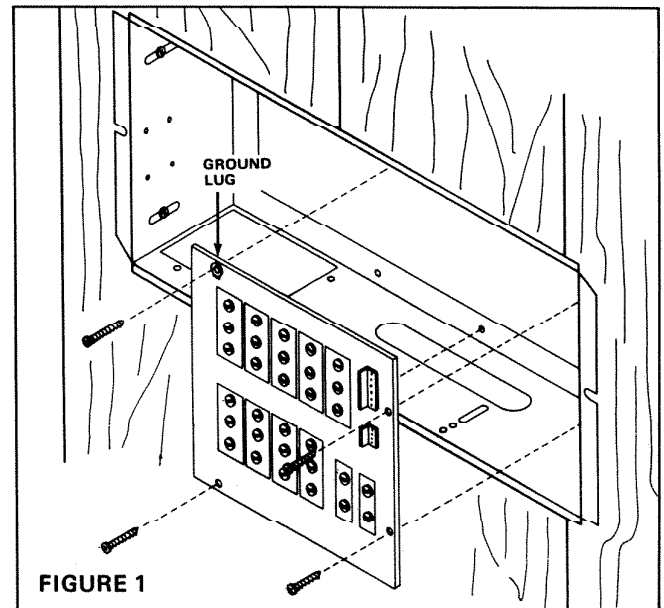

FIGURE 1
1. Locate the terminal board in the right rear section of the rough-in frame. See Figure 1.
2. Use four No. 6 x 3/8" screws to secure terminal board to rough-in frame. See Figure 1.
3. Make certain that the upper left screw is secure and snug against the ground lug which covers mounting hole in terminal board. Do not bend ground lug — make sure it is positioned between mounting screw and terminal board. See Figure 1.